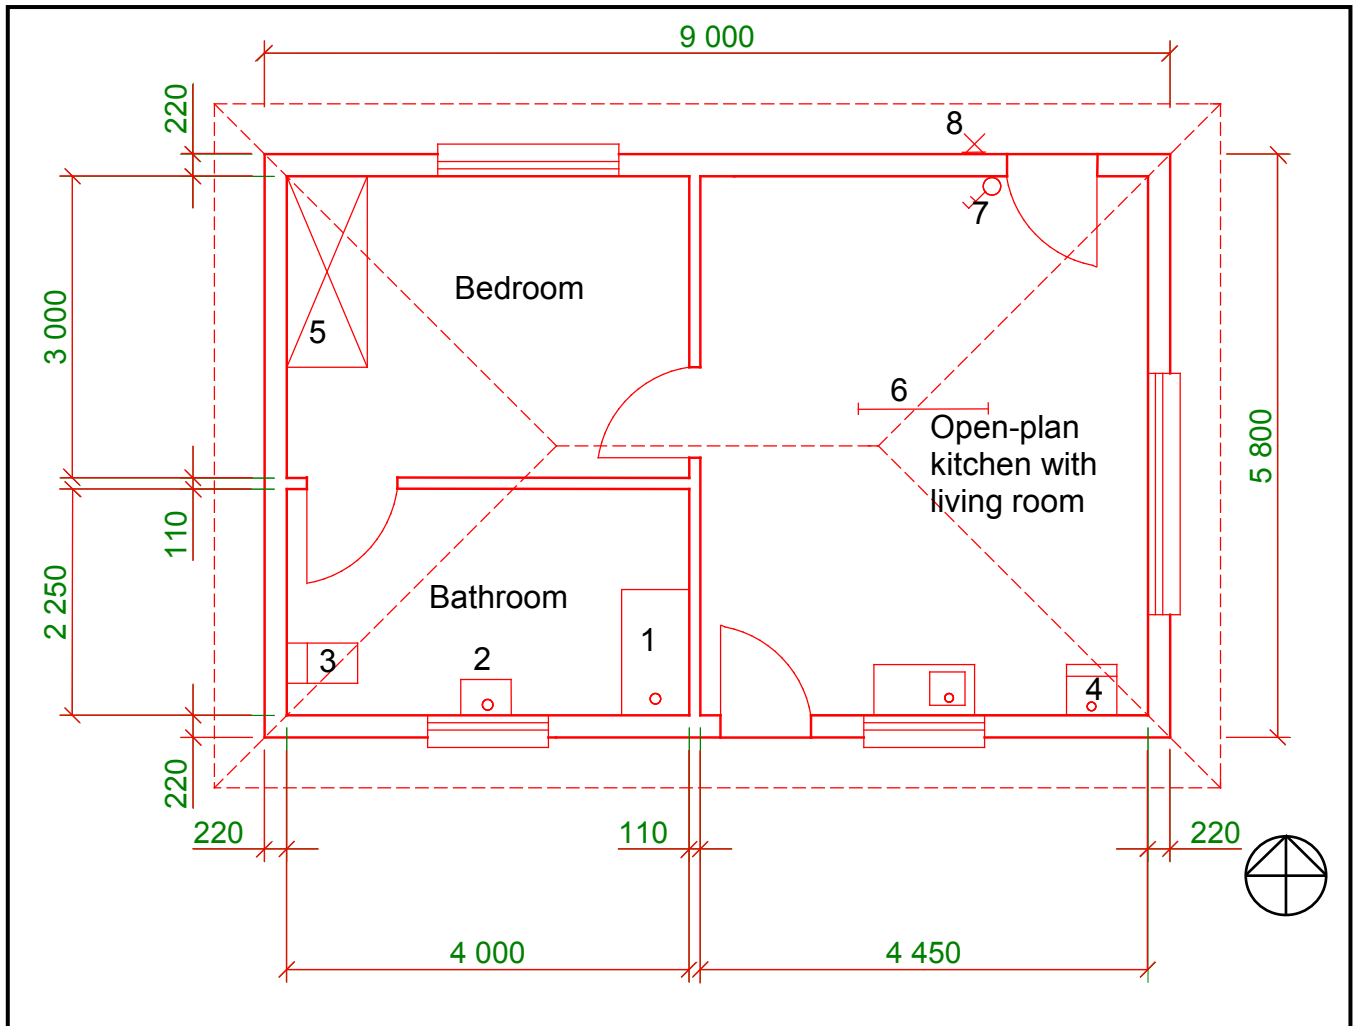

FIGURE 6.1
6.1 FIGURE 6.1 below illustrates the floor plan of a one-bedroom flat.